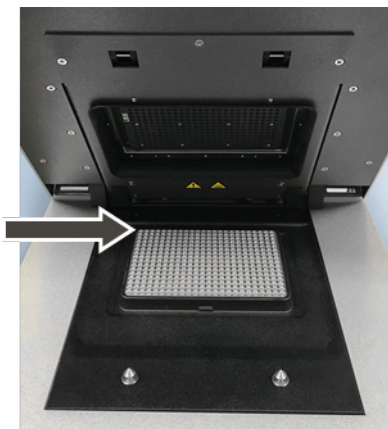

Figure 7. Position A1 on the sample block.
3. Place the PCR plates onto the thermal block in such a way that well A1 is on the left-hand side (**Figure 7**). This position corresponds to the well allocation in the QIAquant 384 Software program.